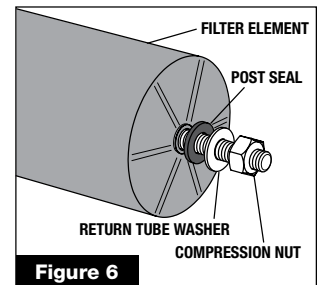

Figure 6
- 13 Replace the bottom post seal, return tube washer and compression nut (**figure 6**).